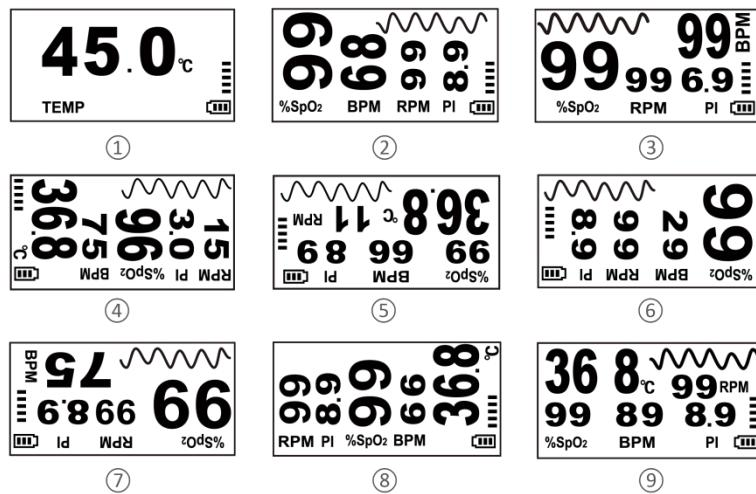

Figure 7
2) There are eight display modes for your choice, See Figure 7. Figure 7.(1)-Figure 7.(9) display SpO₂ and pulse rate.